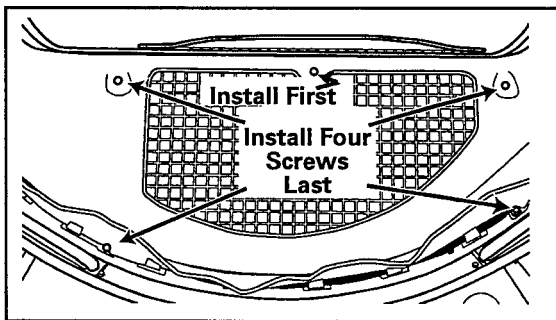

Figure 6-4
4. When reattaching the outlet duct assembly to the tumbler front, install the center screw (found above the grid area) first, followed by the four outside screws in any order. (See Figure 6-4)